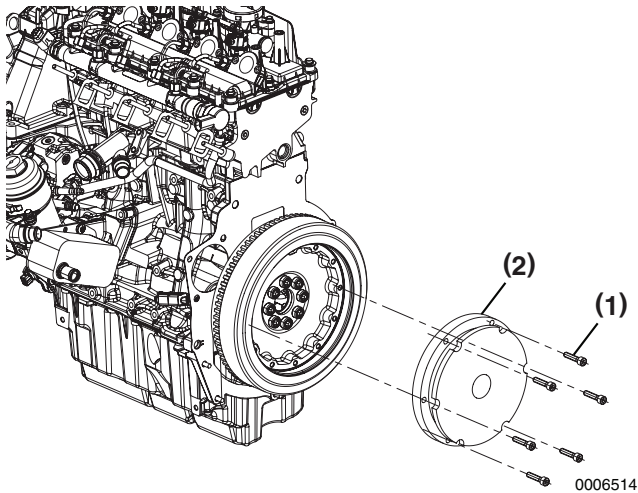

Figure 5-66
3. Remove 12 bolts (**Figure 5-66, (1)**).
4. Remove coupler (**Figure 5-66, (2)**).